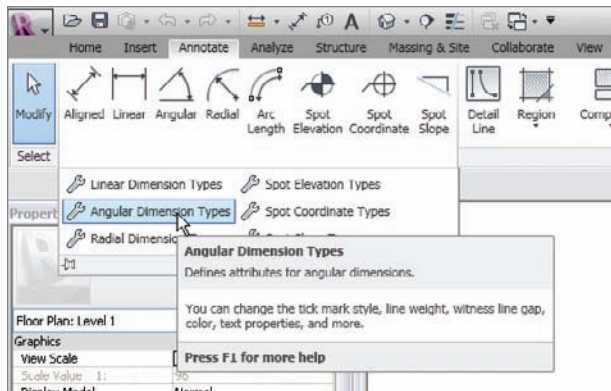

FIGURE 23.16 Accessing the Dimension settings
1. On the Annotate tab, click the bottom of the Dimension panel (click where it says Dimension). This will expose your Dimension settings, as shown in Figure 23.16.